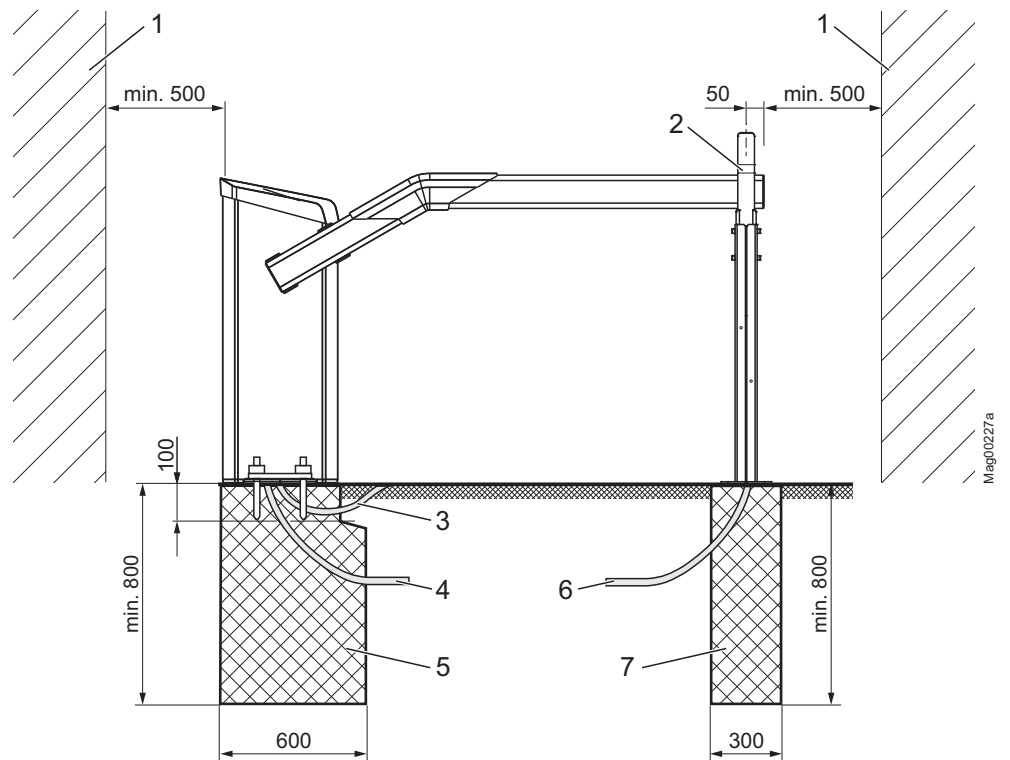
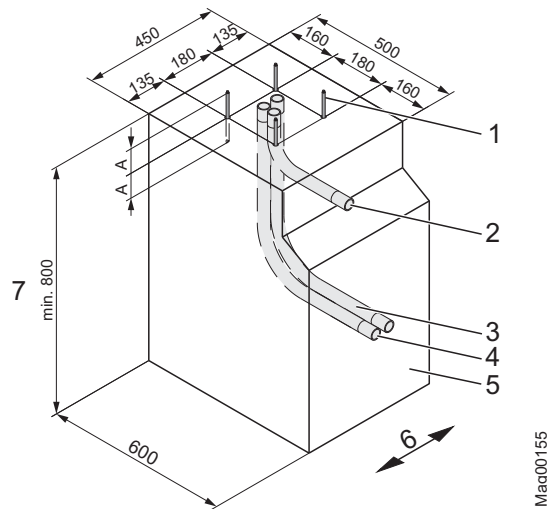
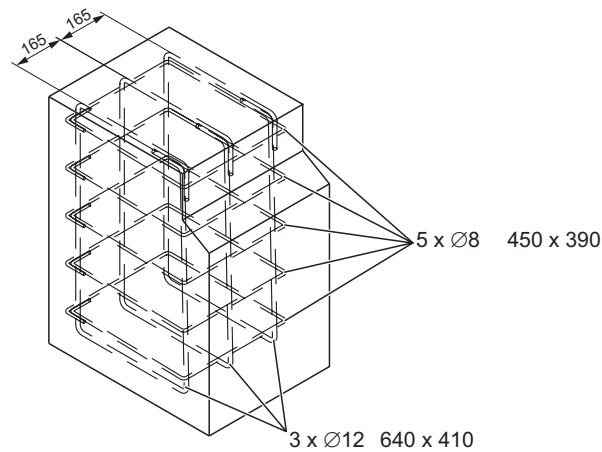

Fig. 15: Assembly boom system
Fig. 16: Foundation plan
Fig. 17: Reinforcement grid
<p>WARNING! Danger of crushing and shearing if the safety distance between the barrier boom and other objects is too low!</p> <p>A closing or opening barrier boom can cause severe injuries from crushing if the safety distance to other objects is too low!</p> <p>Therefore:</p> <ul style="list-style-type: none"> – Keep a safety distance of at least 500 mm between the barrier boom and other objects, such as walls, masonry or houses. → See page 27, chapter 2.7. – Assemble and install barrier system according to Fig. 15.
- Keep a safety distance of at least 500 mm between the tip of the barrier boom and other objects, such as walls, masonry or houses. → See page 53, Fig. 15.
→ See page 53, Fig. 15 and page 55, Fig. 17.
→ See page 55, Fig. 16.
1. Dig foundation hole pursuant to Fig. 15 and Fig. 16.
2. Place reinforcement grid pursuant to Fig. 17 in the foundation hole.
3. Place empty conduits pursuant to Fig. 16 in the foundation hole.
5. Fill concrete foundation pursuant to Fig. 16.
→ See page 53, Fig. 15 and page 58, Fig. 18.